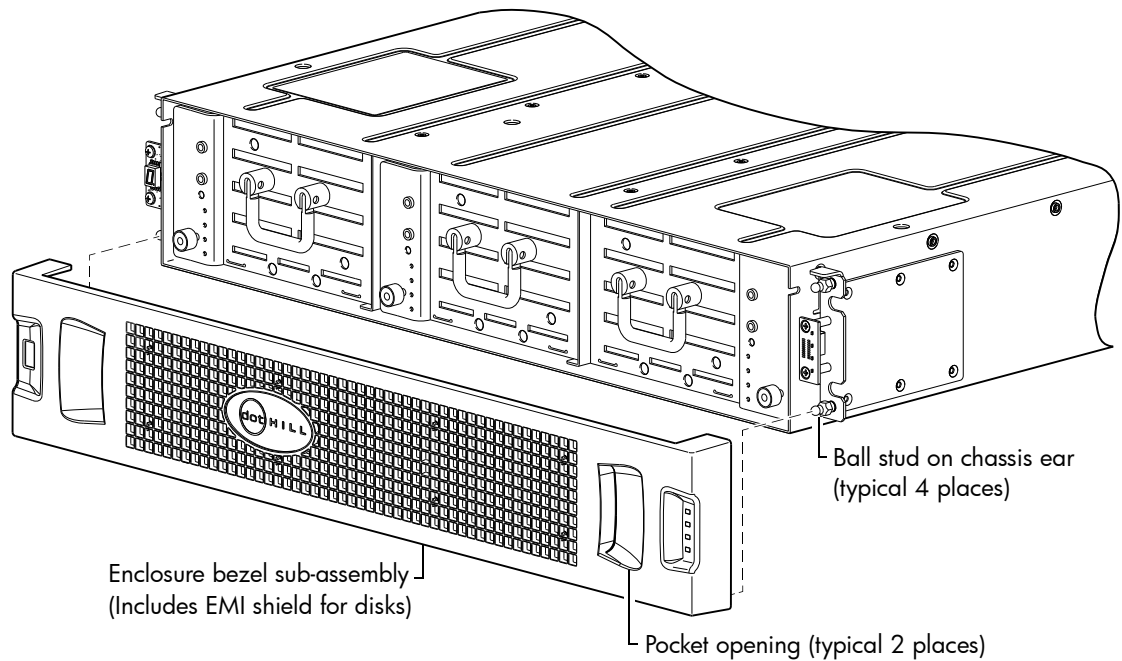

Figure 14 Partial assembly showing bezel alignment (2U)
- See Figure 14 on page 25 for 2U enclosure bezel alignment.